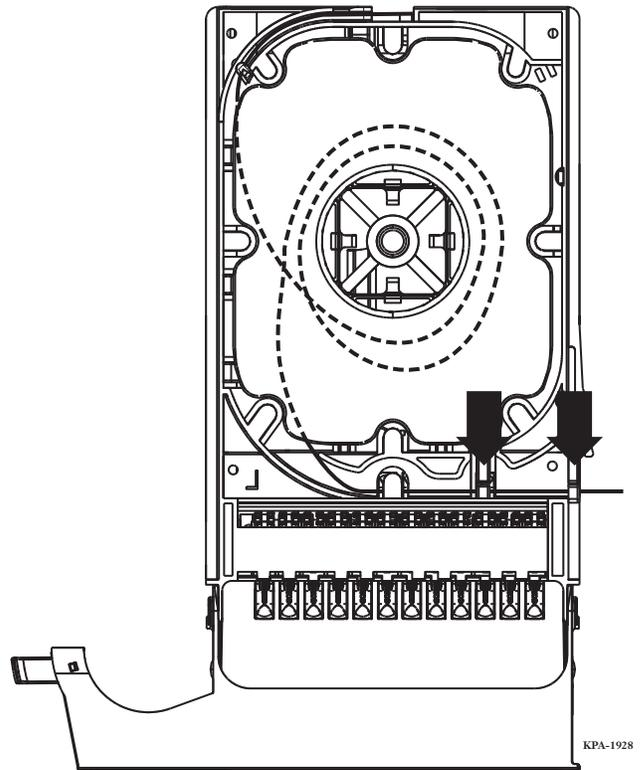

Figure 42
Step 6: Close the guard (Figure 42).